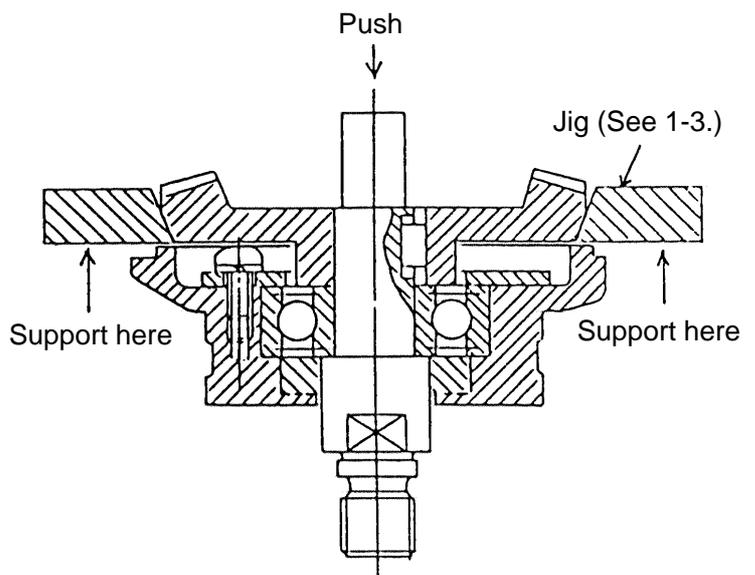

Fig. 2
After the Packing Gland (28) has been removed from the Gear Cover Ass’y (6), support the Gear (20) with an appropriate jig (see below) and push down on the tip of the Spindle (25) with an arbor press as illustrated in Fig. 2 to separate the Gear.